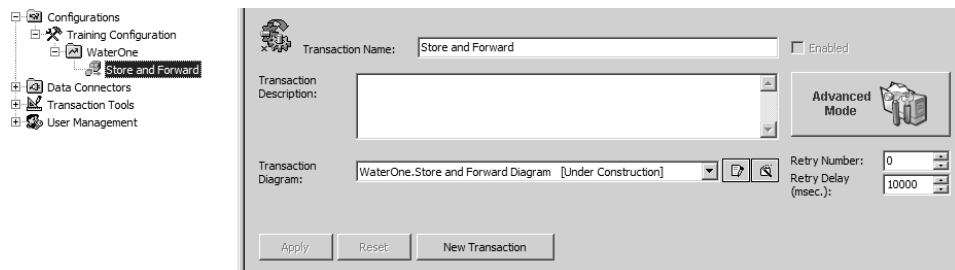

Figure L4.3 - WaterOne Folder with the Store and Forward Configuration
1. Open the **Store and Forward** transaction in the **WaterOne** configuration folder as shown in Figure L4.3.